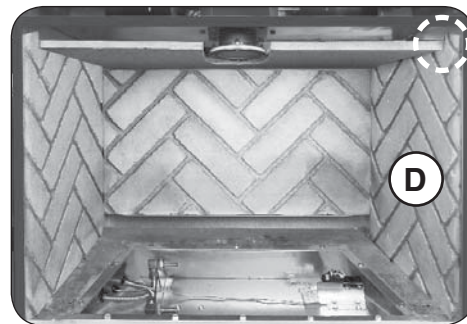

Fig. 30-2 Place right panel
9. Place the right panel on the right side of the unit. Ensure it completely rests inside of the front lip of the unit. See Fig. 30-2, "D".